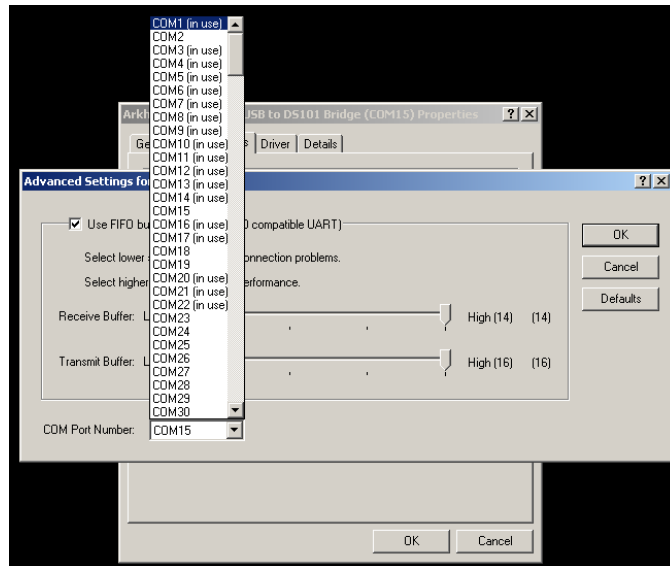

Figure 3-6: Select New COM Port Number
- e) Pull down the COM port list and select desired COM port number as shown in Figure 3-6.